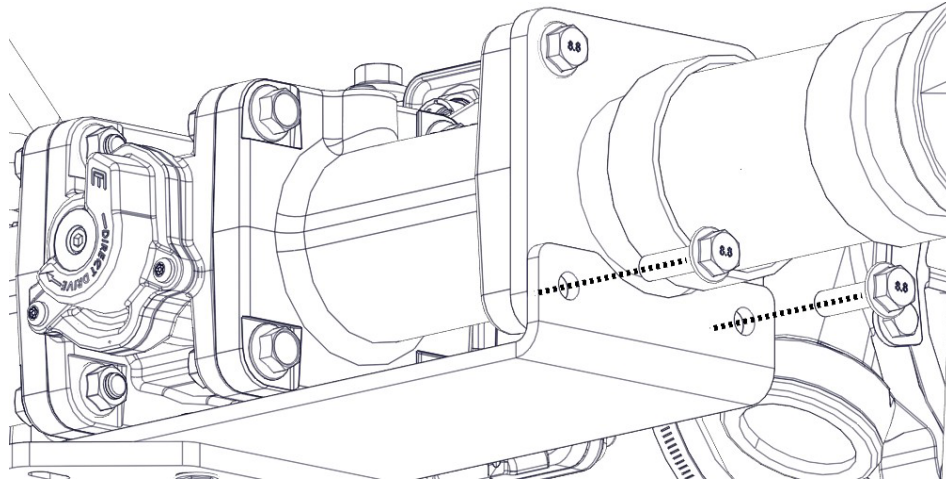

Figure 32.
2. Remove the two bolts (Figure 32) from the bottom of the cross-fitting bracket.
3. Insert and hand tighten the two bolts (Figure 32) from the bottom of the cross-fitting bracket.
6. Torque the two bolts (Figure 32) from the bottom of the cross-fitting bracket 12 ft/ lb.